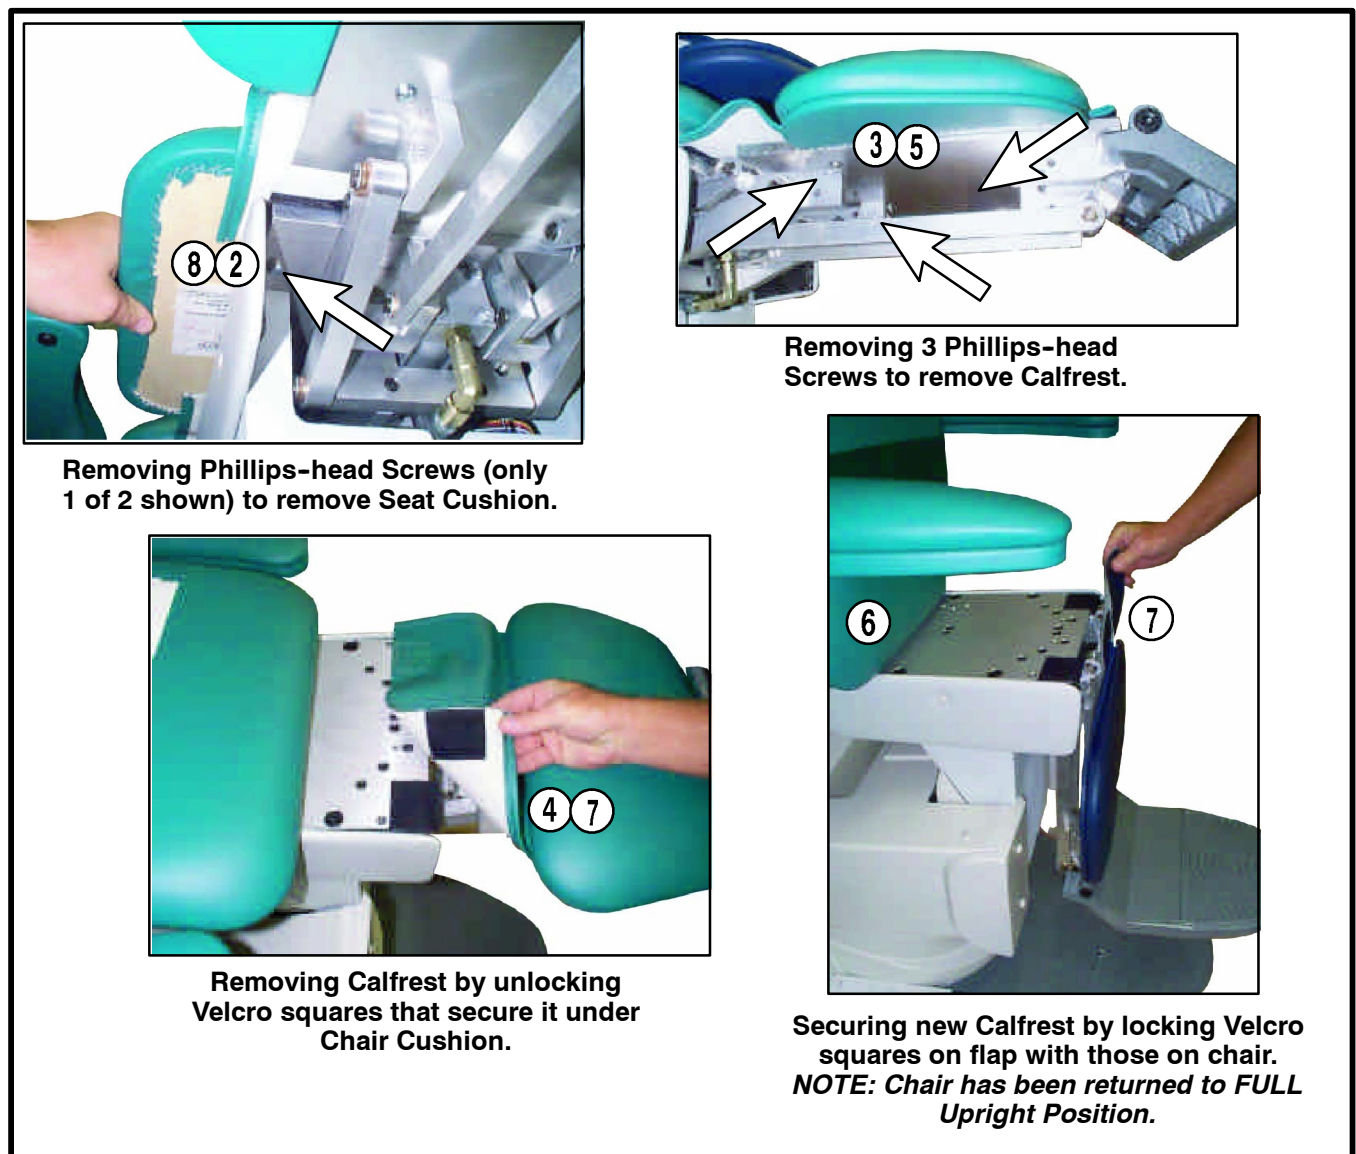

Figure 4-18. Removal and Installation of Calfrest
Should the Calfrest (XXX-XXX-XXX) on the S2700 Maxi Chair Select Select become worn or damaged in such a way that it needs replacement, Refer to Figure 4-18 and follow the steps below.
2. Using the No. 1 Phillips Screwdriver, remove the two screws beneath the Chair Seat to remove the Seat Cushion. See Figure 4-18.
3. Using the No. 1 Phillips Screwdriver, remove the three screws beneath the Calfrest to remove it from the chair assembly. See Figure 4-18.
4. Complete the removal by lifting upward on each side of the Calfrest Flap unlocking the Velcro patch on each side. See Figure 4-18.
5. Using the No. 1 Phillips Screwdriver, replace the three screws beneath the Calfrest to secure it to the chair assembly. See Figure 4-18.
7. Complete the installation pressing downward on the flaps on each side of the Calfrest Flap locking the Velcro patch on each side in place. See Figure 4-18.
9. Using the No. 1 Phillips Screwdriver, replace the two screws beneath the Chair Seat to reinstall the Seat Cushion. See Figure 4-18.